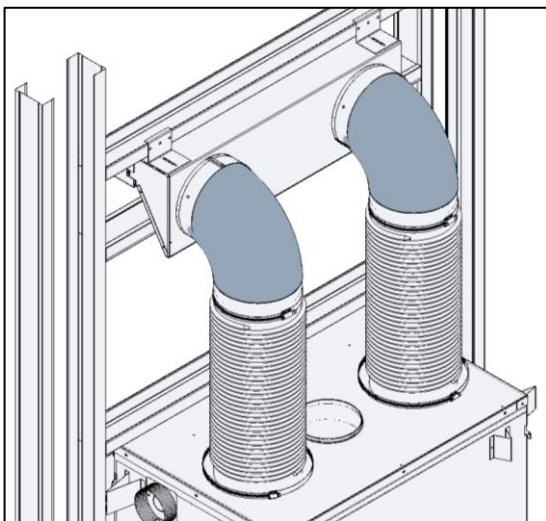

Figure 3-31: Installation of 90° Elbows onto Linear Duct/Louver Adapter
8. Connect the elbows to the linear duct/louver adapter and secure them with sheet metal screws (Figure 3-31).